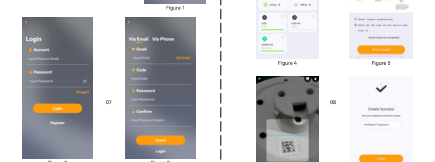

Figure 4
- Open [4G / WIFI] interface, then click [Create] (as Figure 4).